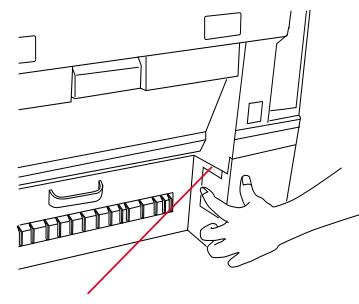
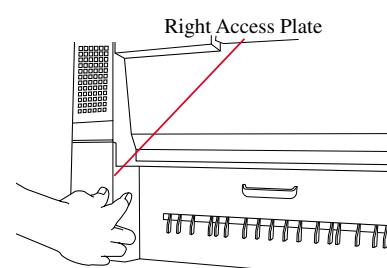

Fig. 3-39
Fig. 3-40
4. Remove the LFU left and right access plates (Fig. 3-39 and Fig. 3-40).